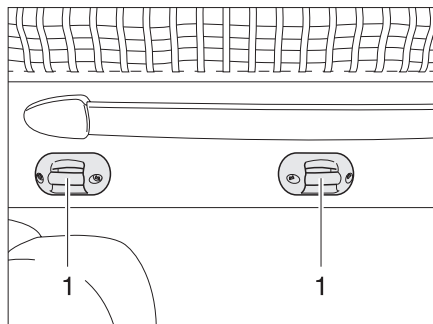

Fig. 98 Access ladder holder
- Hook the access ladder to the pull-down bed by attaching both brackets into the U-bolts (Fig. 98,1).